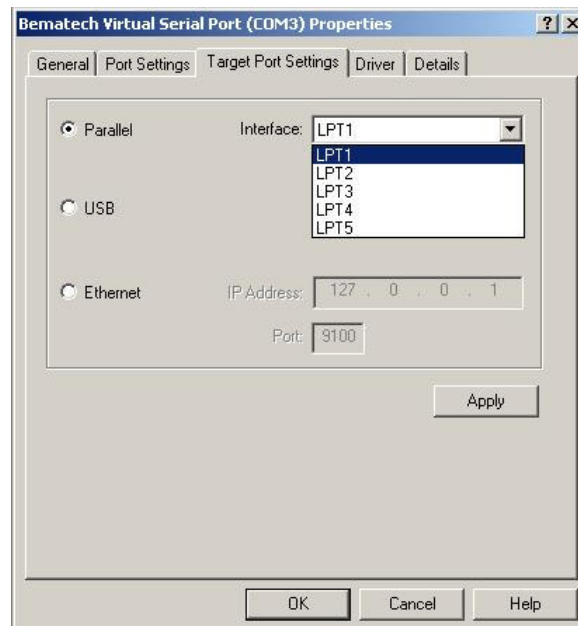

Figure 12 - Setting target to parallel port
- 2) The “Interface” drop-down menu will be enabled (Figure 12). Select the desired LPT port